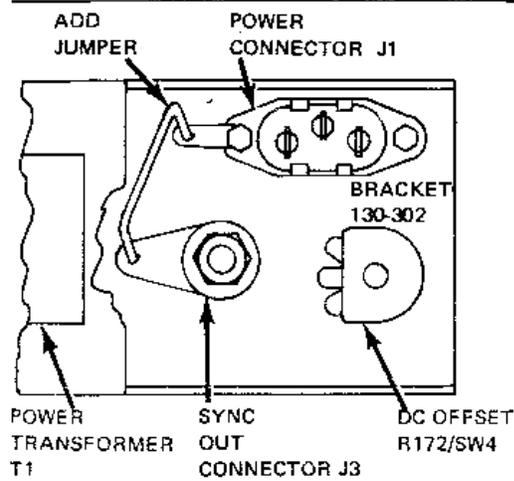

Figure 2-4. Common Ground Connection Diagram
3. Solder a jumper wire between the ground lugs (green wire) of the SYNC OUT connector and the power connector (Figure 2-4).